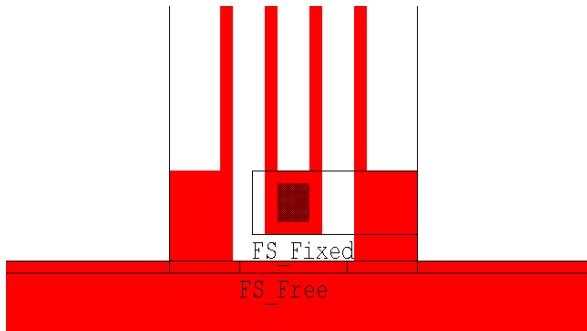

Figure 22: Positioning the folded spring
- Position it above the center of the plate so that it overlaps (see Figure 22).